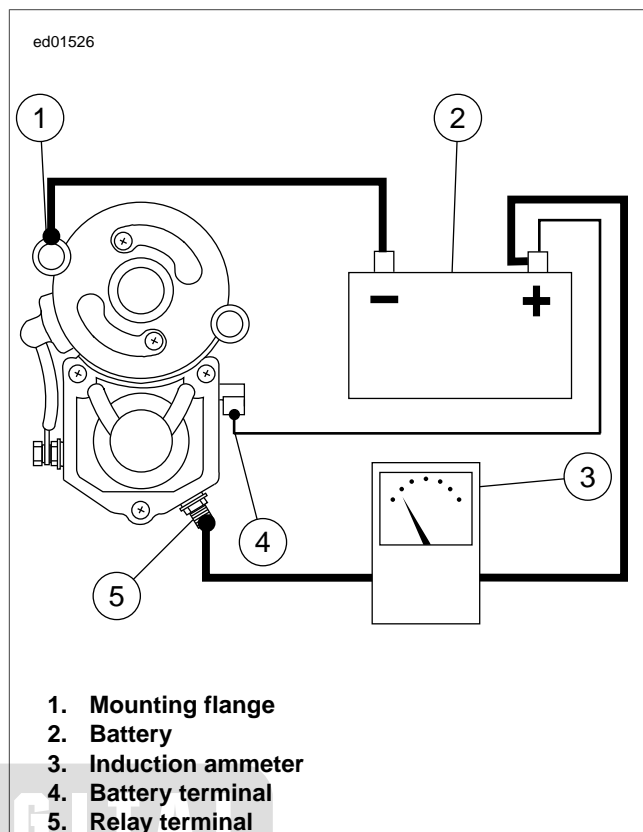

Figure 1-12. Free Running Current Draw Test
3. See Figure 1-12. Attach one heavy jumper cable (6 gauge minimum).
- a. Connect one end to the starter mounting flange (1).
- b. Connect the other end to the negative (-) terminal of a fully charged battery (2).
- a. Connect one end to the positive (+) terminal of the battery (2).
- b. Connect the other end to the battery terminal (4) on the starter solenoid. Place an inductive ammeter (3) over cable.
- b. Connect the other end to the solenoid relay terminal (5).